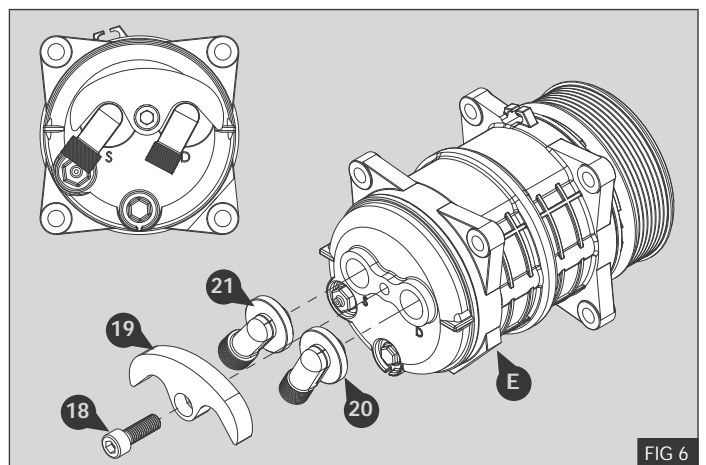

FIG 6
1. Remove the compressor ear (E) detailed in the drawing RHD Only - Fig 6.
2. Fit the supplied compressor fittings ⑳ ㉑ and clamp in place with manifold clamp ⑲ and bolt ⑱ - Fig 6
NB: Align supplied suction and discharge fittings as shown in - Fig 6.